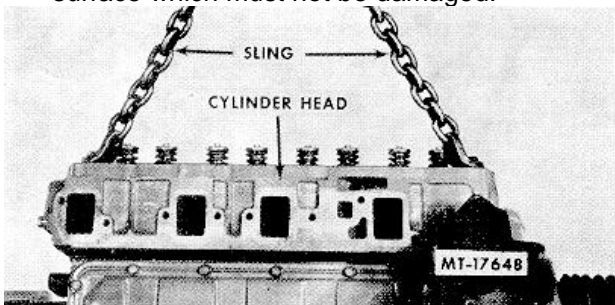

Fig. 30 Removing Cylinder Head
32. Remove cylinder head bolts and using a sling, lift cylinder head off the two locating dowel sleeves (Fig. 30). Remove the cylinder head gasket.